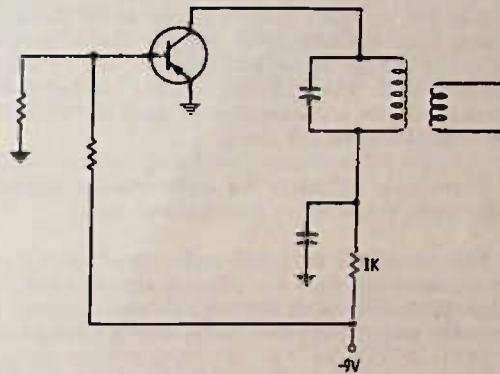

Fig. A-9.
- 23. B. Thermal runaway is not possible unless the transistor can draw excessive current because of circuit values. For example, a resistor in the emitter or collector circuit can prevent thermal runaway by limiting the total current possible. An emitter resistor not only limits the amount of current available to flow through the transistor, but also reduces the transistor bias as the transistor current increases. Fig. A-9 shows a transistor circuit that will prevent thermal runaway, even though the transistor bias is not affected, so long as the transistor will not be damaged by the passage of 9 mA of current. The 1K resistor would limit the circuit current to 9 mA, even if the transistor were a short circuit.